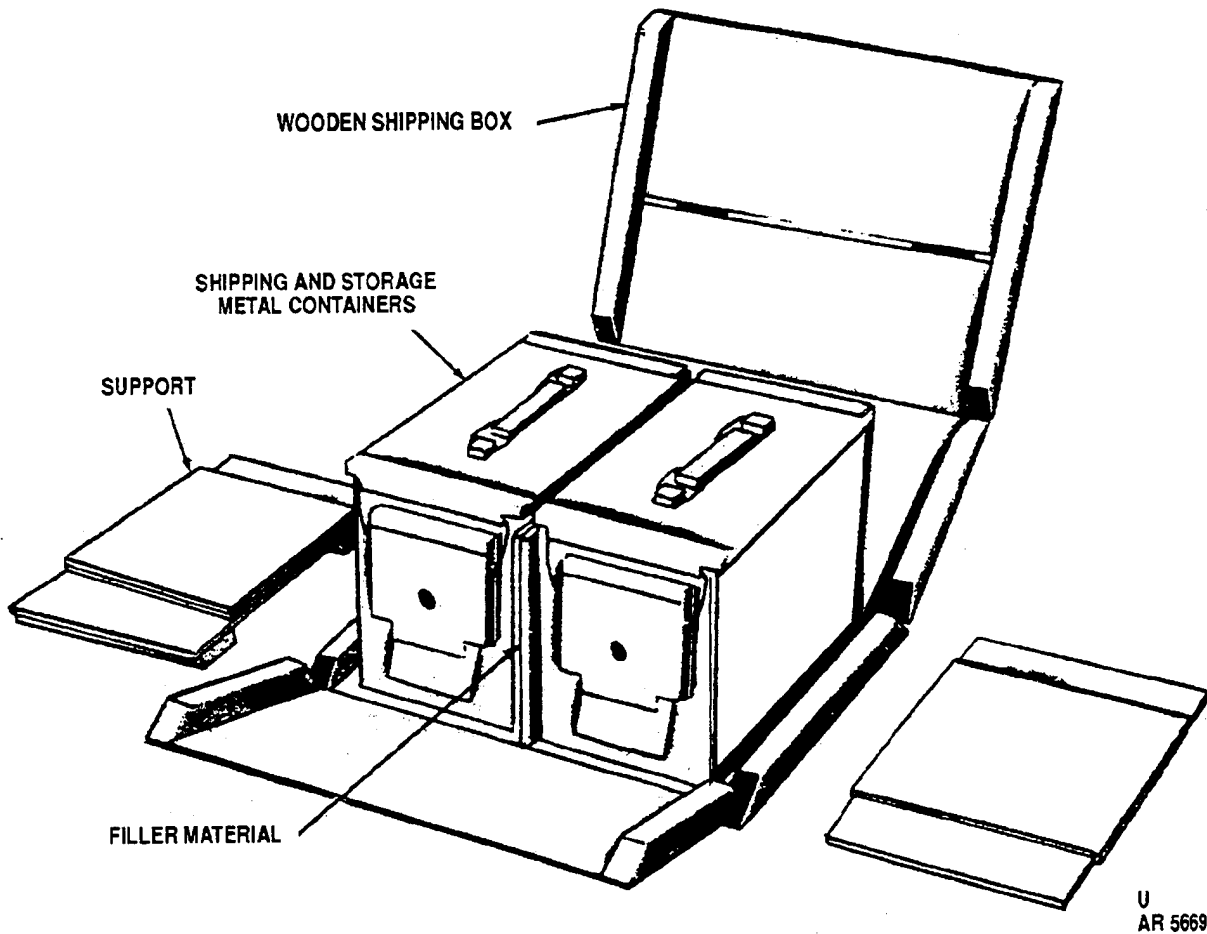

Figure 3-23. Packing Wirebound Boxes.
- a. Position inner pack(s) on bottom of box (fig. 3-23). Position items to balance load for carrying.